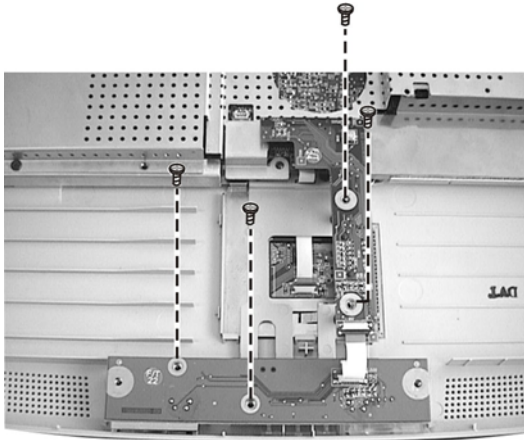

Figure 2-25
8. Remove four screws to take the recharge board apart. (figure 2-25)